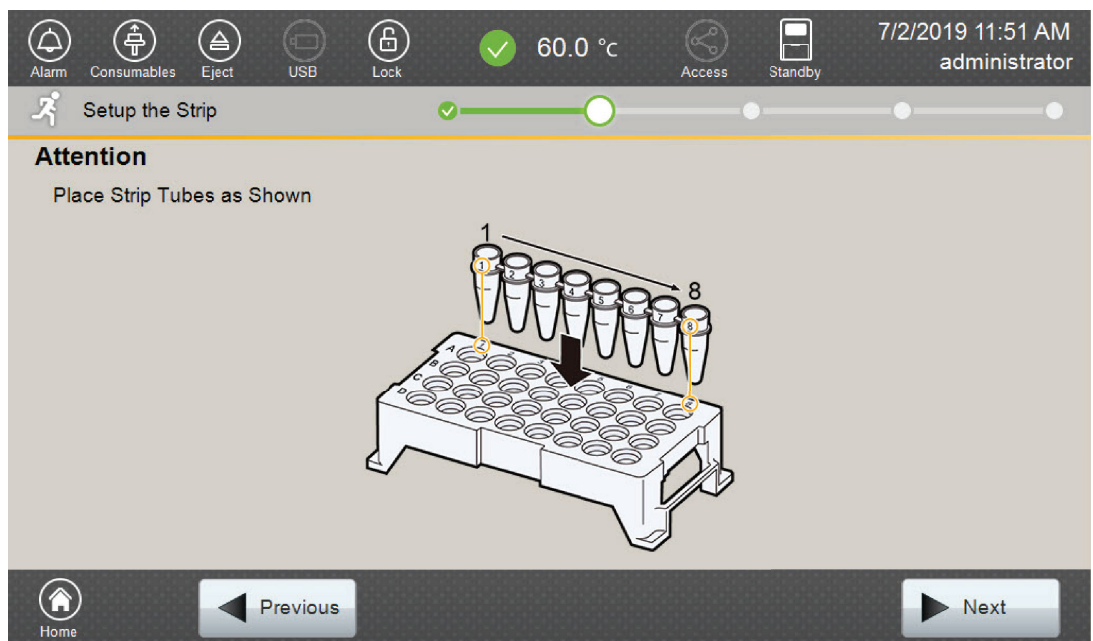
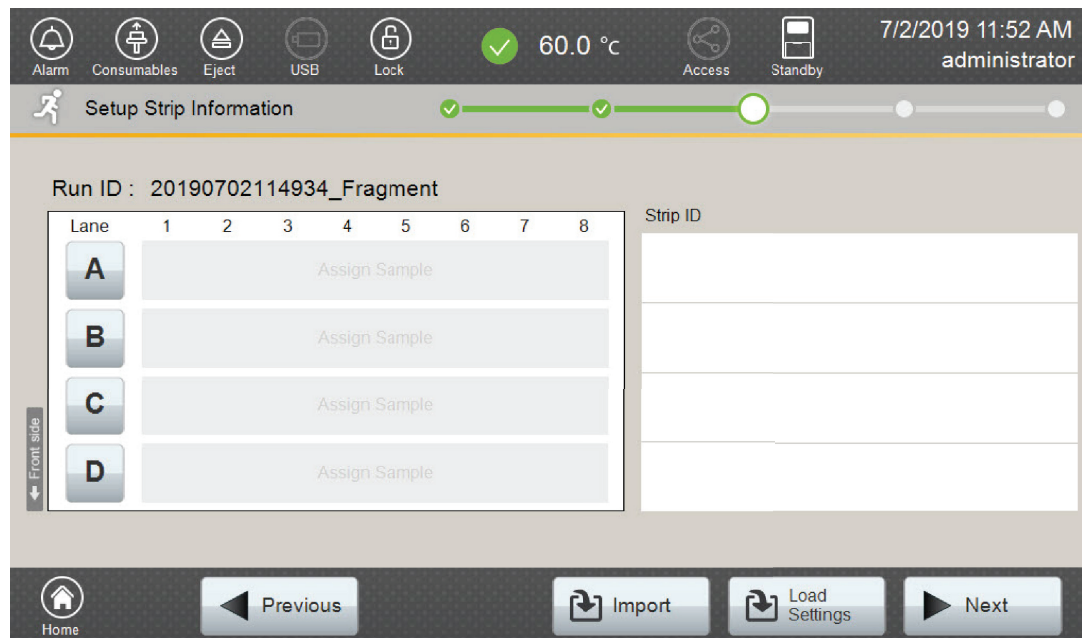

Figure 11. 'Setup the Strip' screen.
Figure 12. 'Setup Strip Information' screen.
6. Follow the message screen for placement of strips into the sample cartridge (Figure 11).
1. Select **Next** on the 'Setup the Strip' screen shown in Figure 11. This will take you to the 'Setup Strip Information' screen shown in Figure 12.